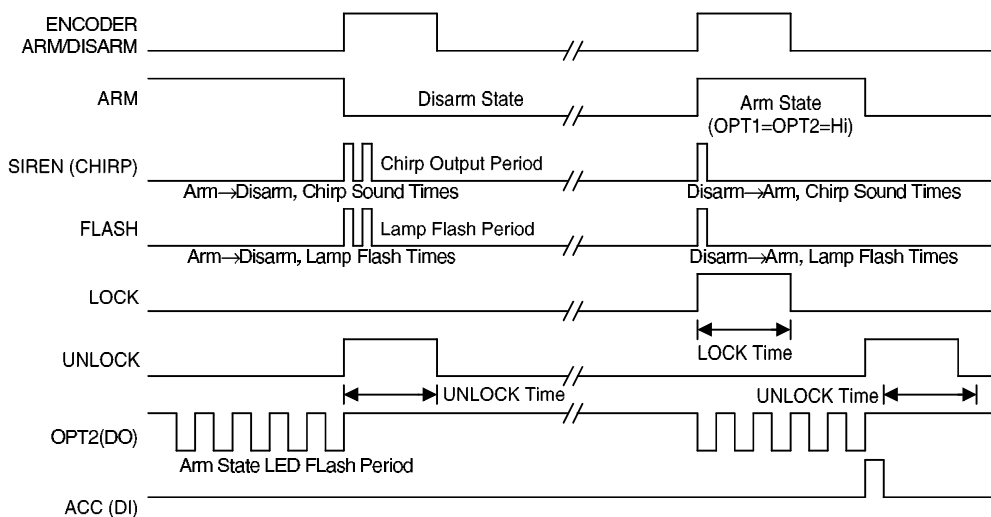

Fig.1 Arm/Disarm Timing
The UNLOCK pin will output a 2-second pulse each time the ACC (DI) pin receives a Hi to Lo signal. The timing is shown in Fig.1.